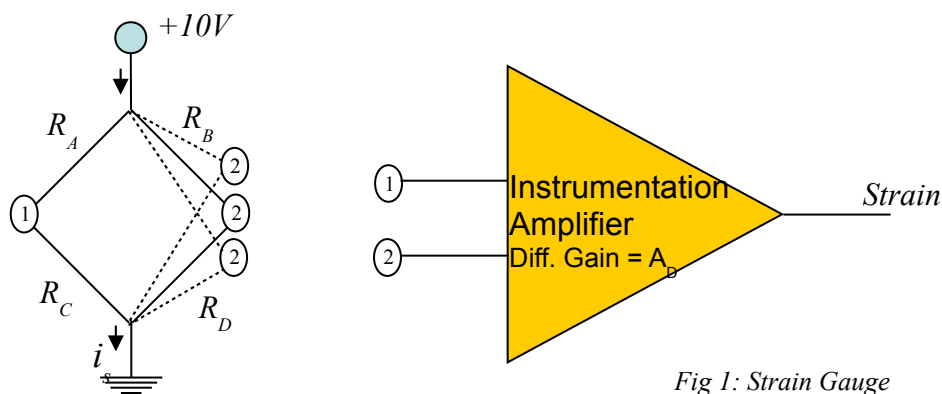

Fig 1: Strain Gauge
Consider the circuit shown in Fig 1, which can be built on the bakelite board provided to you:
Based on your answer to question 4) above, set the differential gain of your instrumentation amplifier to an appropriate value, and obtain a measurement of the ‘strain’ or imbalance produced in the resistances R_B & R_D as the position of the point labelled (2) in Fig 1 changes in terms of the amplified voltage signal observed at the output of the instrumentation amplifier.
Note: Calibration of the voltage signal to get a physical measurement of applied force v/s strain would require a separate measurement of the applied force – which is not performed in this experiment. A device like this is typically used to measure the *weight* of objects : a heavy object attached to point (2) in Fig 1 (and the entire setup placed in a vertical plane) would cause imbalance of the resistance bridge by stretching the wire and produce a voltage signal. Putting pre-calibrated weights in (eg. 1 kg, 10 kg, 100 kg etc) would allow a calibration of the voltage v/s force applied.